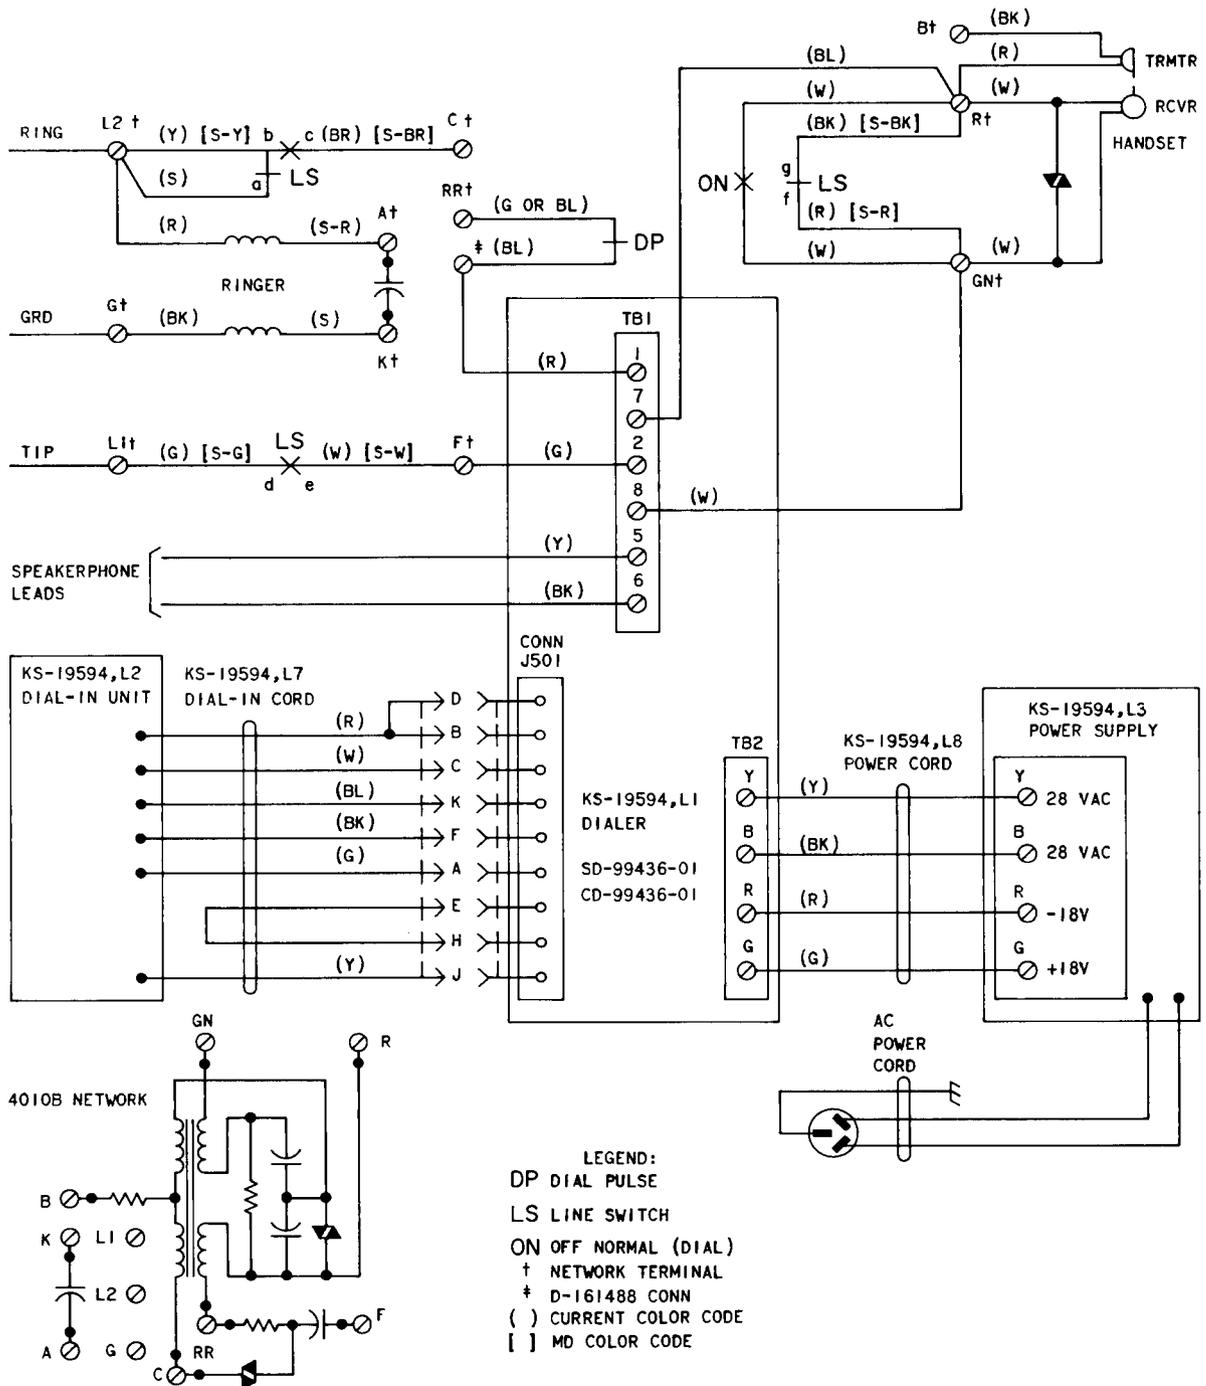

Fig. 2—Typical Installation Layout, KS-19594 Dialer
2.12 Fig. 2 shows a partial schematic of a typical dialer installation. SD-99436-01 contains a complete schematic of the various dialer components and CD-99436-01 gives a description of the circuits.